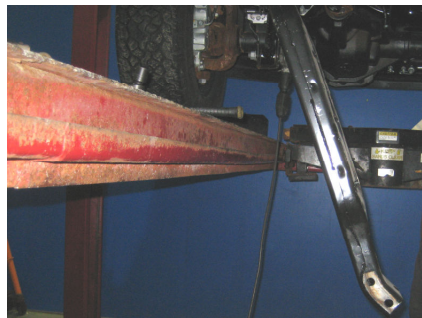

Figure 2
2. Support the transmission and then lower the transmission cross-member. Save hardware for reinstallation. **Refer to Figure 2.**